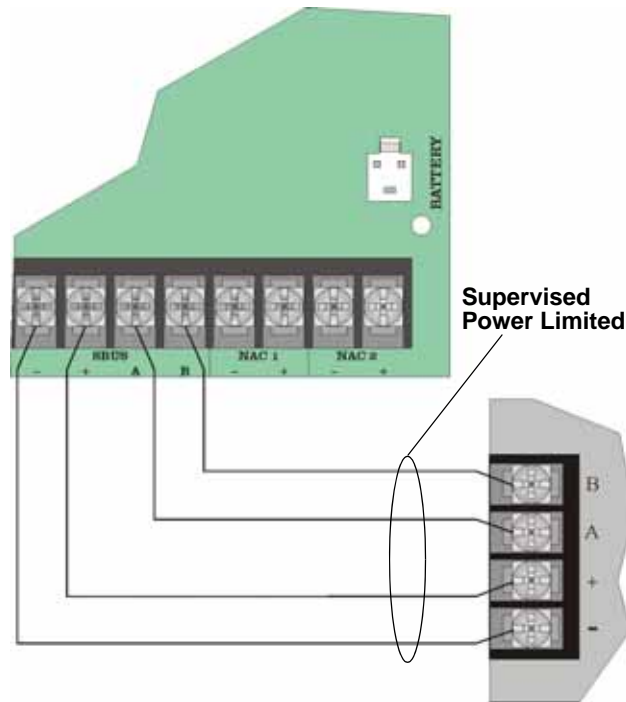

Figure 4-8 SBUS Class B Wiring
Figure 4-8 illustrates Class B configuration.
3. Wire the Annunciator board to the main control panel. See Figure 4-8.